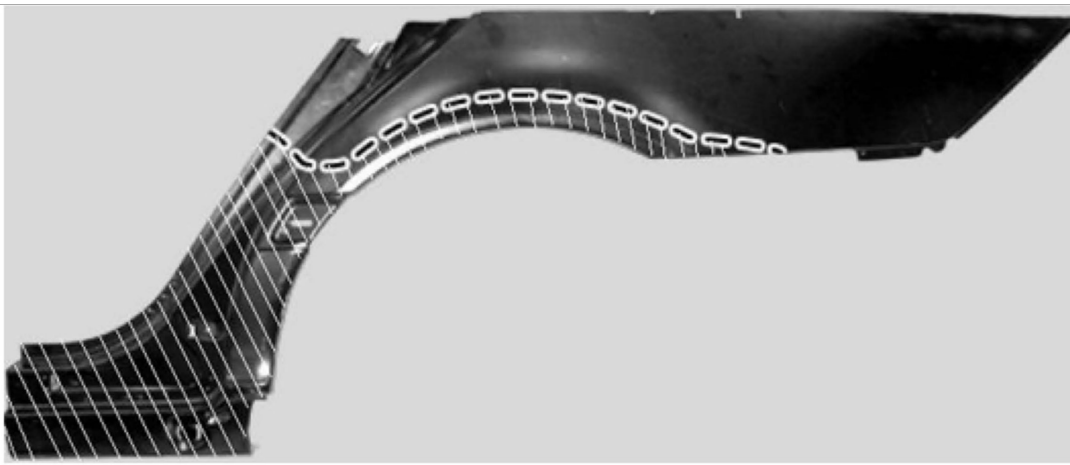

Figure 2. Definition of Repair Stages 3 and 4
2. In cases where areas A and B have corrosion or rust-through damage, the repair panel must be fabricated to match the damage profile and it should be installed as a partial section. If the scope of the repair is smaller than the shaded area (Figure 2), repair stage 3 must be carried out.
- a. Repair Stage 3: If the damage is equal to or smaller than the shaded area, replace the entire pictured repair panel (Figure 2).
2. If the scope of the repair is greater than or equal to the shaded area (Figure 2), then repair stage 4 must be carried out.